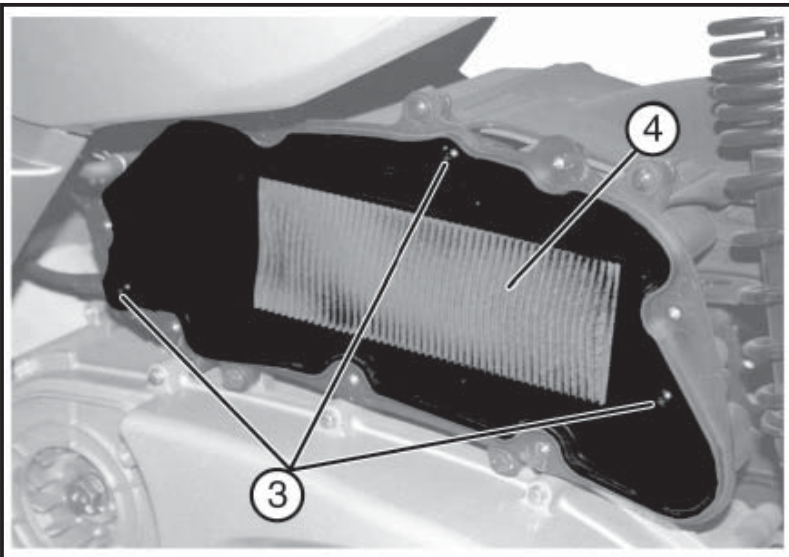

Fig. 02
- Remove the three air filter retaining screws«3 - Fig. 02».
- Remove the air filter «4 - Fig. 02».